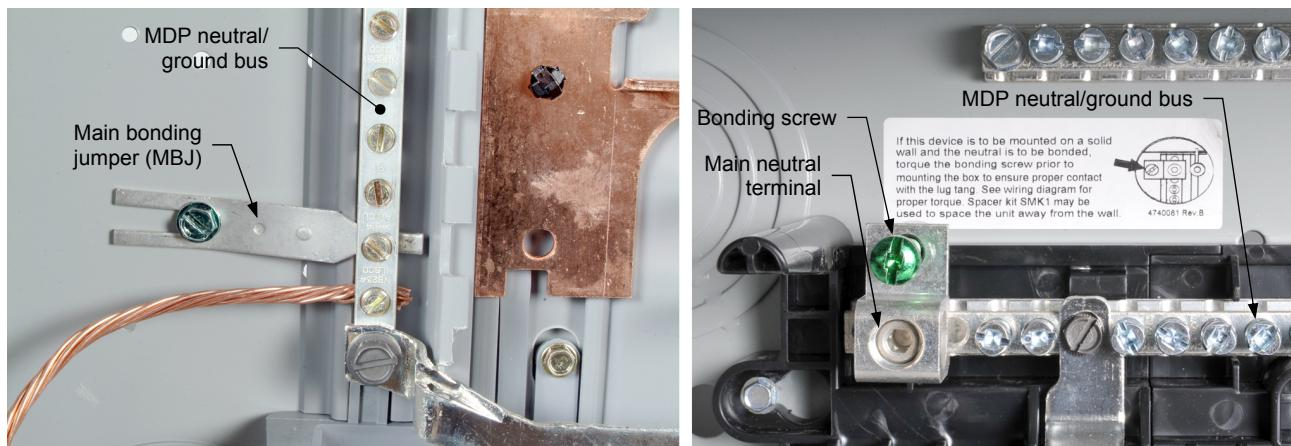

Figure 19. MDP enclosures connected to the neutral/ground bus using either a MBJ or a bonding screw.
8. Connect the MDP enclosure to the neutral/ground bus. Depending on the MDP enclosure, the connection to the neutral/ground bus can be done using a main bonding jumper (MBJ) or a bonding screw (see Figure 19).
- Depending on the MDP enclosure, either a bonding screw or a main bonding jumper (MBJ) interconnects the MDP enclosure and the neutral/ground bus (see Figure 19).